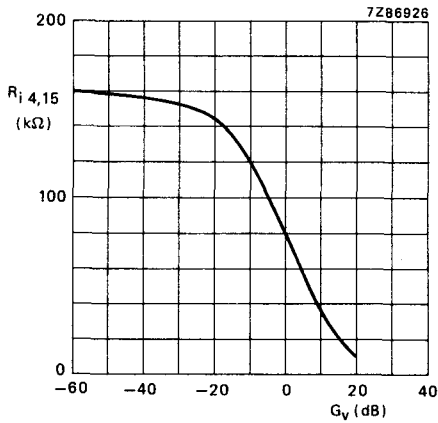

Fig. 3 Input resistance ( $R_i$ ) as a function of gain of volume control ( $G_v$ ). Measured in Fig. 1.
- Equation for input resistance (see also Fig. 3)